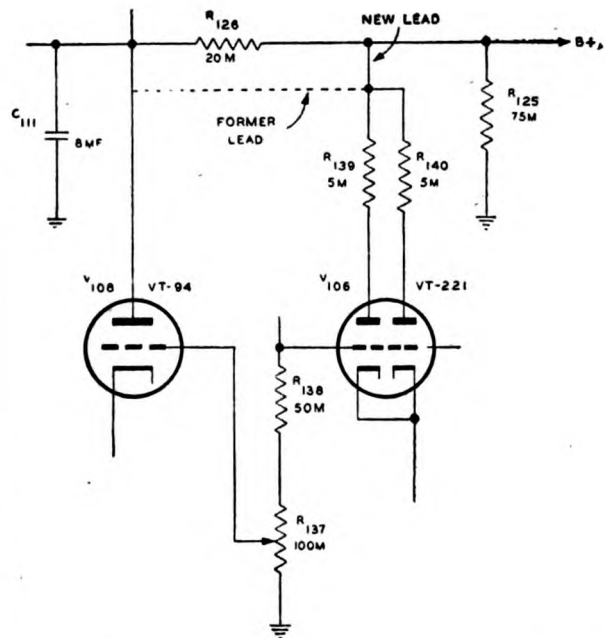

Figure 104. Diagram of change in sidetone oscillator circuit.
a. Beginning with serial number 1151 on Order No. 30203-Phila-43, a change has been made in the c-w sidetone circuit. The change increases the available sidetone signal level and compensates for a possible loss in signal level due to circuit element deterioration. The plate-voltage supply connection for tube V_{106} has been changed from the junction of resistors R_{126} and R_{127} to the junction of resistors R_{125} and R_{126} . (See fig. 104.) This change increases the plate-voltage to the sidetone oscillator tube V_{106} . The increased plate voltage results in an increase in output of the sidetone oscillator tube V_{106} . Resistor R_{138} has been changed from 100,000 ohms to 50,000 ohms. This change increases the level of the sidetone signal available at the sidetone volume control R_{137} slightly more than 2 db (decibels). The plate-supply lead for sidetone